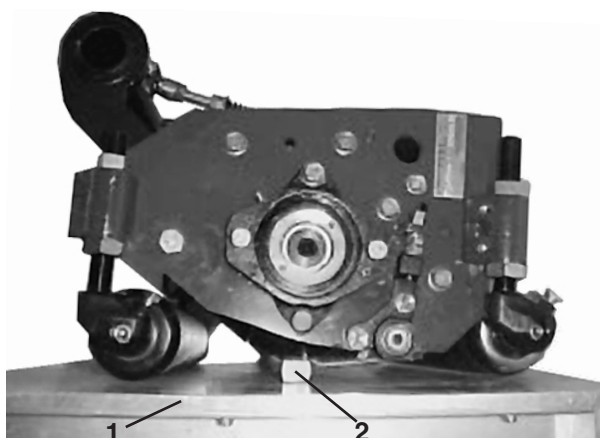

Figure 11
3. Rock the cutting unit forward (on the reel blades and steel bar) until the front roller contacts the flat surface. The reel blades and bedknife must maintain contact with the bar. The rear roller should not contact the surface (Fig. 11).